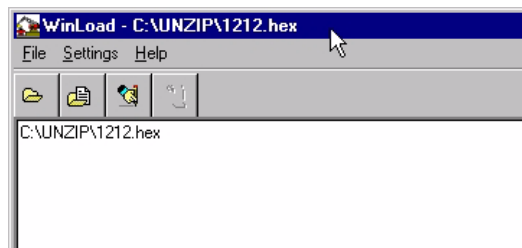

Figure 12: Open File in WinLoad
Once you have selected your file, the name should appear in the main display area and in the title bar, see *Figure 12* below.
3. Make sure the file path and file name are displayed in main display area, see *Figure 12, Open File in WinLoad on Page 48*.